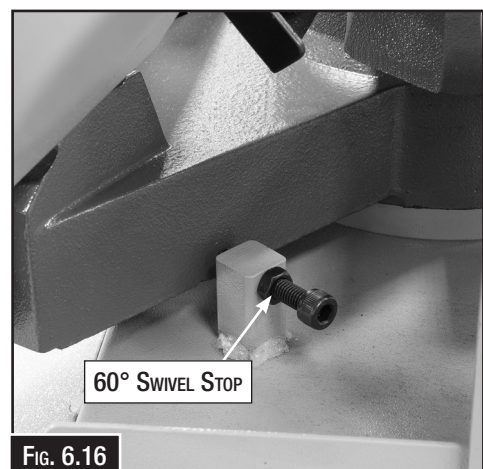

FIG. 6.16
4. Check that the 60° head stop is hard up against the casting (Fig. 6.16) and the stop screw, then loosen the lock nut and adjust the stop bolt until it rests against the casting.